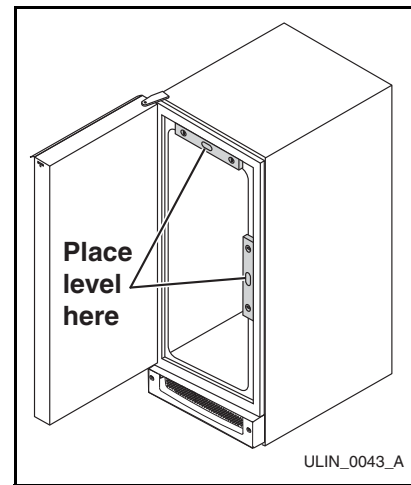

Figure 7
2. Locate the adjusting screw on the ice maker assembly control box. The adjusting screw is just below the minus (-) and plus (+) signs on the control box (**Figure 7**).